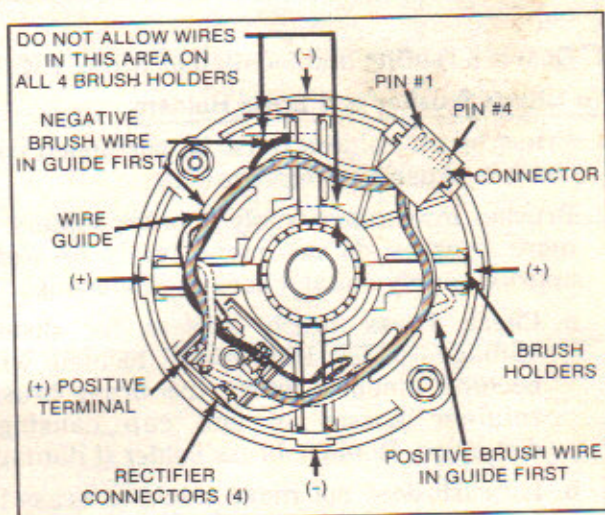

Fig. 5 — Brush Wire Routing
2. Remove nuts (2) and washers (2) from thru bolts.
4. Observe routing and location of wires, Fig. 5.
4. With springs in brass holder, insert brushes, part number 395467, in holders. Route wires in same location as when disassembled. Fig. 5.